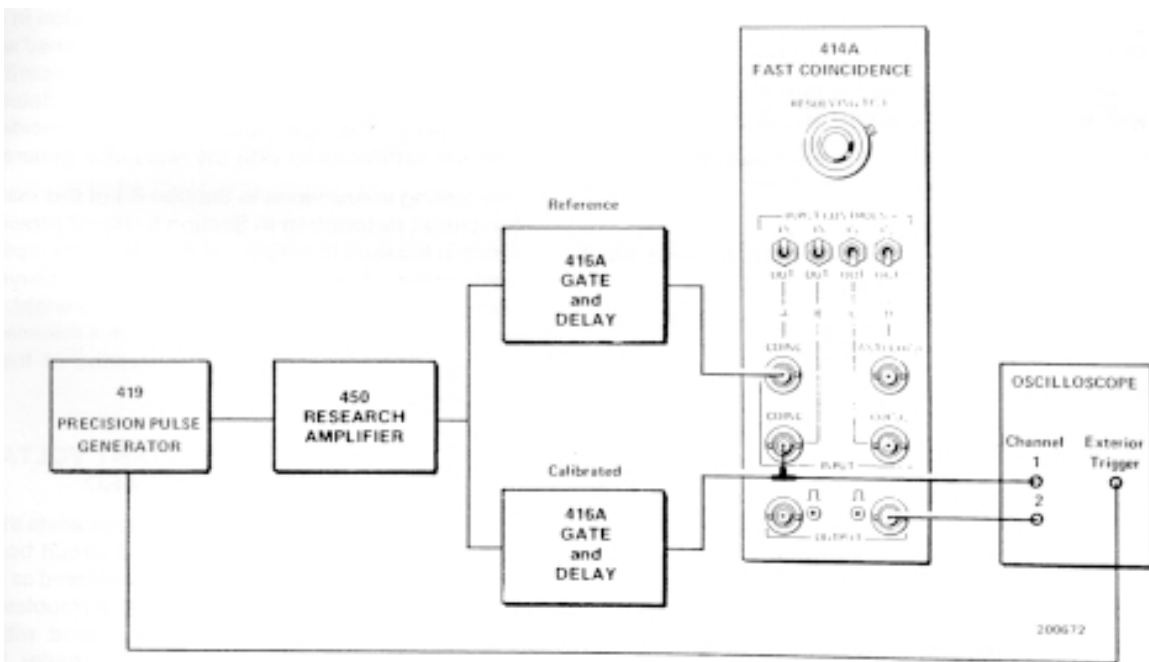

Fig. 6.1. 414A Test and Calibrate Circuit.
6. Connect the equipment as shown in Fig. 6.1. Keep all coaxial cables terminated in their characteristics impedance.
10. With the equipment connected as shown in Fig. 6.1, two pulses (the Calibrated 416A output and the 414A output) should be visible on the oscilloscope. Set the horizontal time base to 20 ns/div. It may be necessary to use the Delayed Sweep function on the oscilloscope in order to observe both pulses at this horizontal sweep speed.